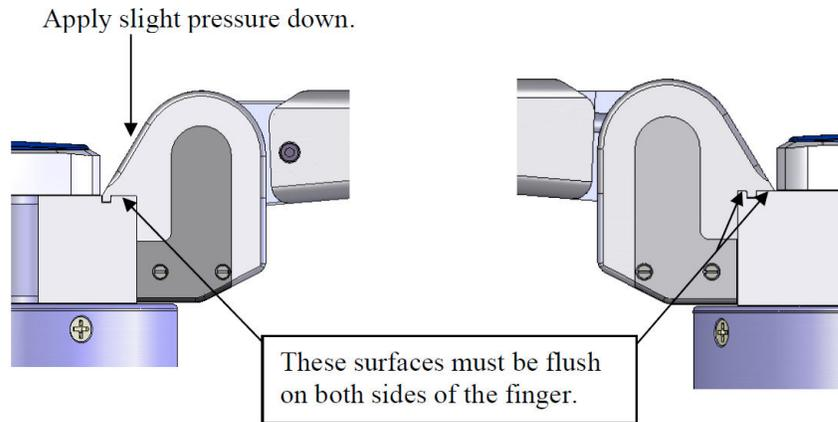

Figure 22: Apply downwards pressure and secure shoulder screw.
Step 10: **Once the finger is in place, apply slight pressure down and screw in the shoulder screw.** See Figure 22.